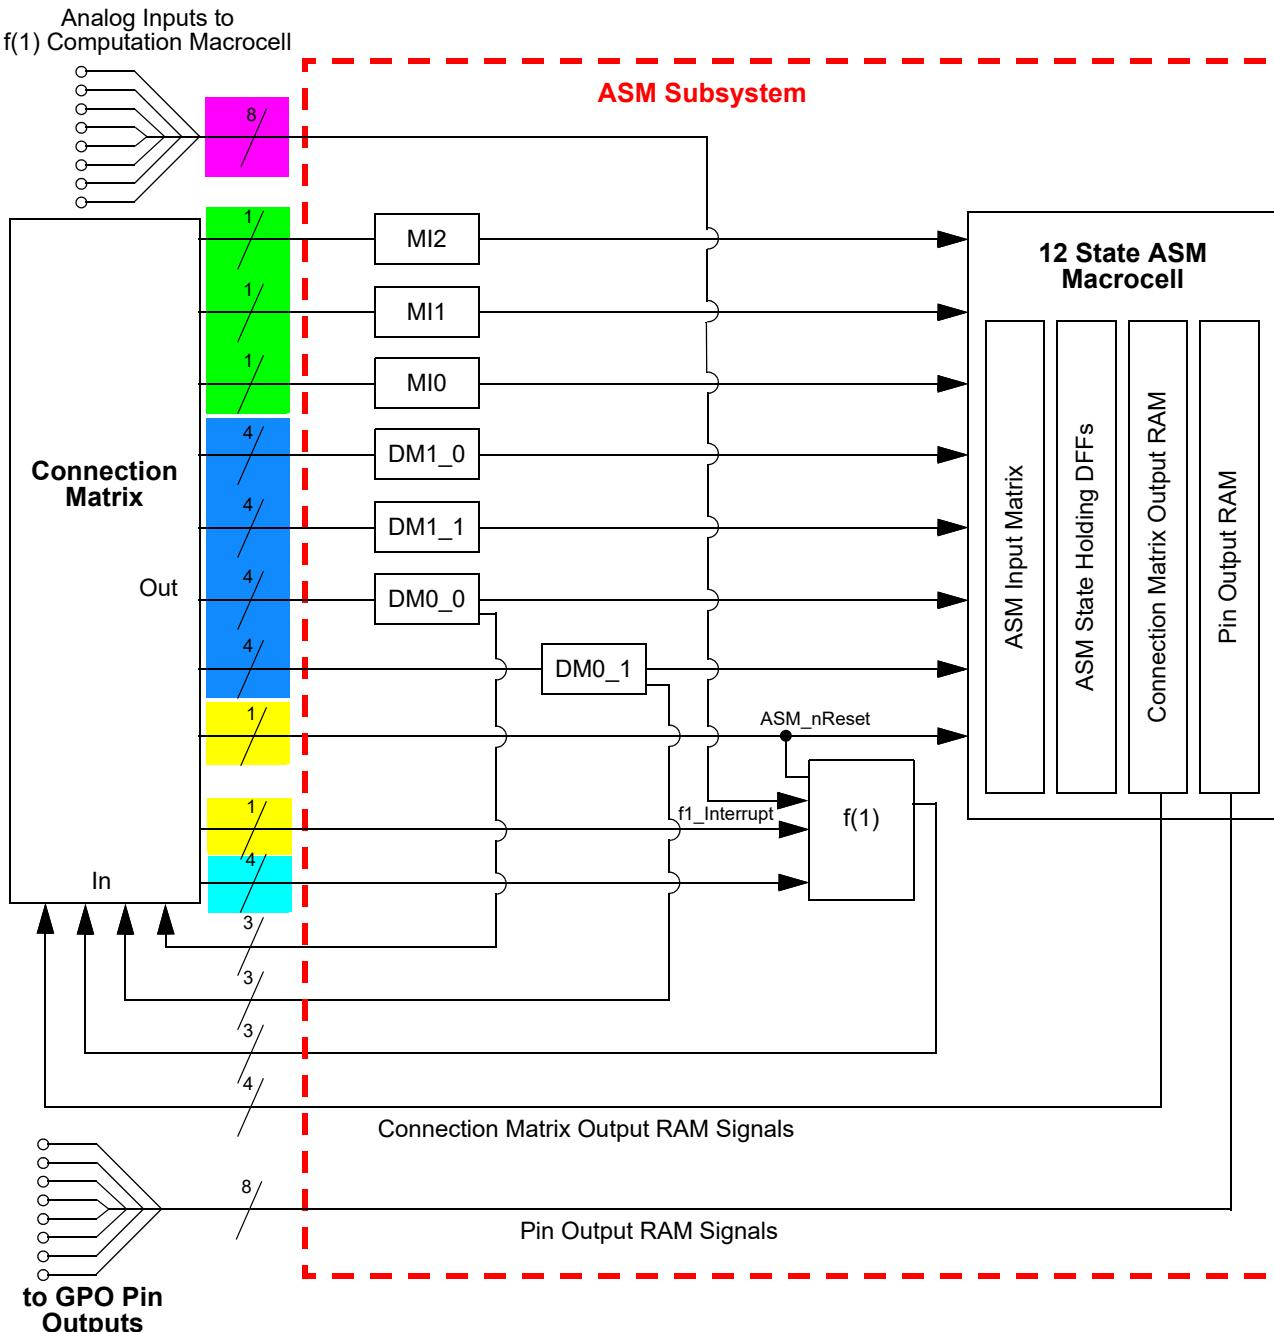
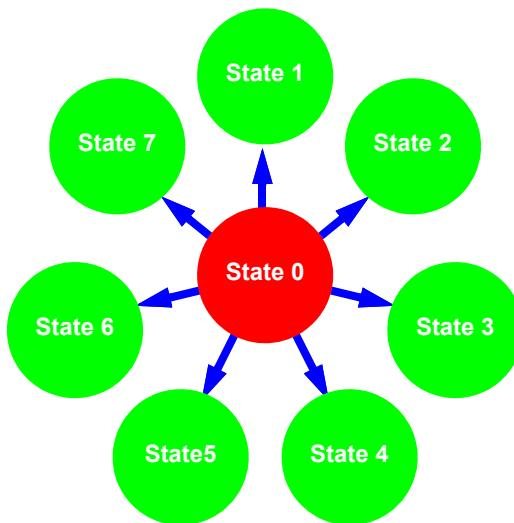
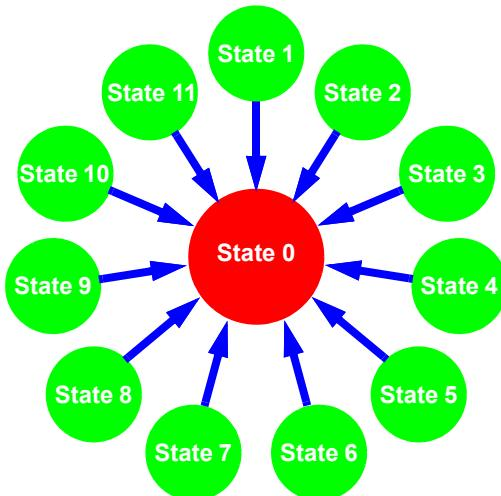

Figure 90: ASM Subsystem Input Signals
Figure 91: Maximum 7 State Transitions out of a Given State
Figure 92: Maximum 11 State Transitions into Given State
The ASM Subsystem has a total of 25 digital input signal lines, as shown in Figure 90, which all come from the Connection Matrix outputs. Of these 25 input signals, 3 are user selectable inputs going directly from the Connection Matrix to the three Matrix Interface (MI) macrocells. There are a total of 16 input signals that go to the DM_x_x macrocell, four per macrocell. There is 1 ASM_nReset input that is for driving a state transition in both the ASM macrocell and the f(1) Computation Macrocell to an Initial/Reset state. There are 4 digital input signals coming from the Connection Matrix to the f(1) Computation Macrocell. There is also 1 dedicated Interrupt input to the f(1) Computation Macrocell that will halt any active operations and transfer control back to the ASM macrocell. Each of the 25 input signals are level sensitive.
There are a total of 16 digital input signals to the ASM Subsystem which are inputs directly to the DM macrocells. These 16 signals are shown in Figure 90, highlighted in blue. While there are 4 input signals coming from the Connection Matrix and going to each DM_x_x macrocell, there is only 1 output signal from each of these macrocells, which goes directly to the ASM macrocell. There are also 3 signal lines that come directly from the Connection Matrix and go to the three Matrix Interface (MI) macrocells which can drive state transitions. These signals are shown in Figure 90, highlighted in green. This sets an upper bound on the number of transitions that the user can select going *out of* a particular state to be 7, shown in Figure 91. There is no limitation on the number of unique transitions that can be supported going into a particular state, the user can select to have transitions going from a state to all other states, shown in Figure 92. Each of these input signals to the ASM macrocell is level sensitive, and active high. A high level input will trigger a state transition.
There are a total of 8 analog inputs coming from various pins which can be muxed into the positive input for the f(1) Analog Comparator inside the f(1) Computation Macrocell. These 8 signals are shown in Figure 90, highlighted in pink. The f(1) Analog Comparator can be re-programmed for analog input source and negative input reference settings. The user selections for both positive input signal and negative reference are included as part of the information stored in the f(1) Command Register Table. This allows the user to make different analog measurements that are state dependent in their analog sources and reference settings.
The ASM macrocell also has a ASM_nReset input. This input to the ASM macrocell is level sensitive and active low. This signal is shown in Figure 90, highlighted in yellow. An active signal on this input will drive an immediate state transition to the user-defined Initial/Reset state. The user can choose which state within the ASM Editor inside GPAK Designer will be the reset state.
There is also 1 dedicated f1_Interrupt input to the f(1) Computation Macrocell that will halt any active operations and transfer control back to the ASM macrocell. This signal is shown in Figure 90, also highlighted in yellow.